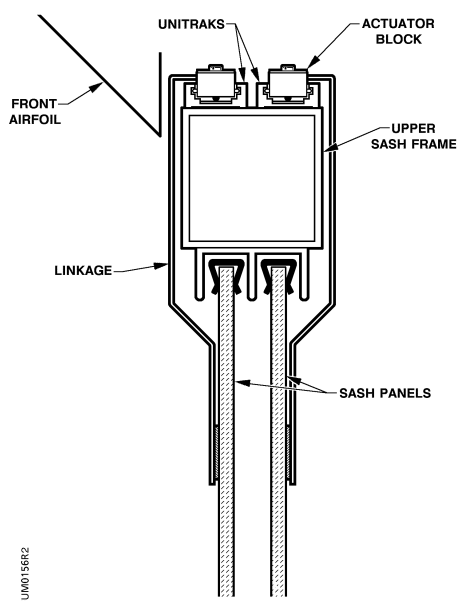
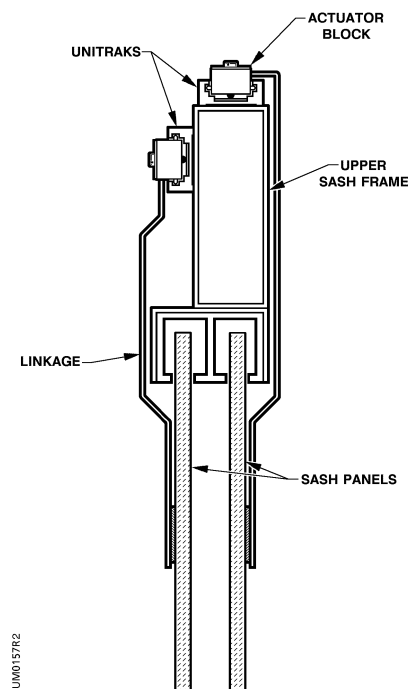
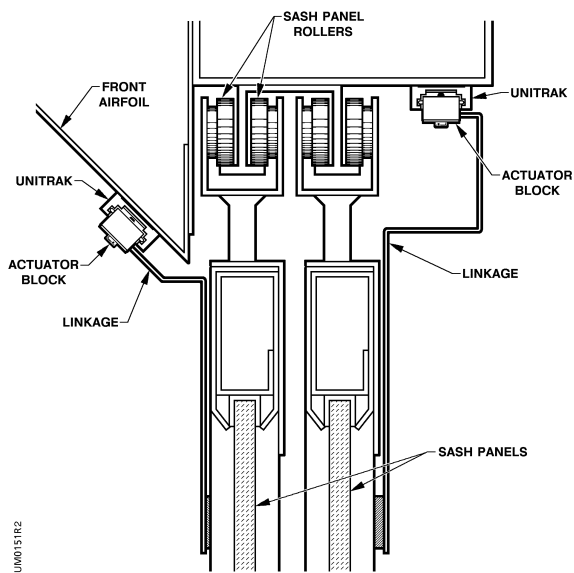

Figure 6. UniTrak Mounting for Kewaunee Visionaire and Kewaunee Airflow Supreme (Combination-Style Fume Hoods).
Figure 7. UniTrak Mounting for Hamilton Safeair (Combination-Style Fume Hood).
Figure 8. UniTrak Mounting (Horizontal-Style Fume Hood).
2. Locate the correct mounting area for the UniTrak sensor. See Figure 6, Figure 7, and Figure 8.